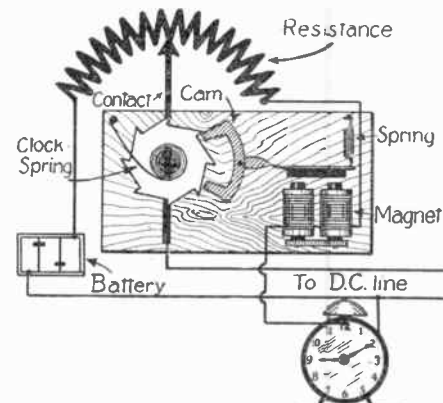

Fig. 1. An apparatus for charging a storage battery with a tapering current, which diminishes as the battery becomes more and more nearly charged.
Connections are made as shown in Fig. 1. It is important that the leads of the rheostat should both be connected as shown, for if they were reversed the current would increase instead of decreasing, as the lever of the rheostat is turned to the right. One thing that should be noted is that the magnet is subject to the full line voltage when the rheostat lever is on the extreme end point. The windings must be able to stand the current, yet able to operate the catch when the lever is on the other end point with full resistance. When the minute hand of the clock passes over (12) it completes the circuit through the magnet, which pulls the pallet end down; the spring turns the rheostat contact arm a little to the right, but when the circuit is broken the magnets lose their magnetism and the spring pulls the catch back to its original position; this again allows the spring to turn the rheostat a little more to the right.